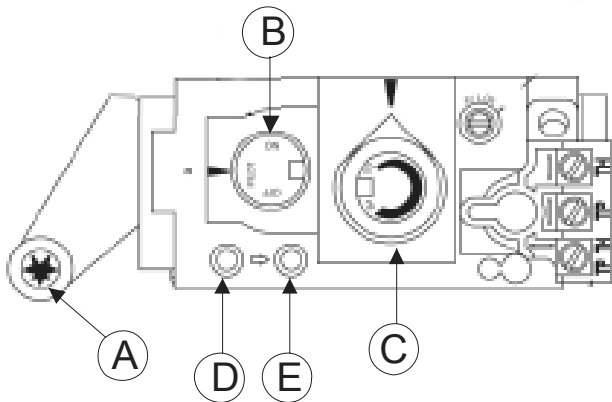
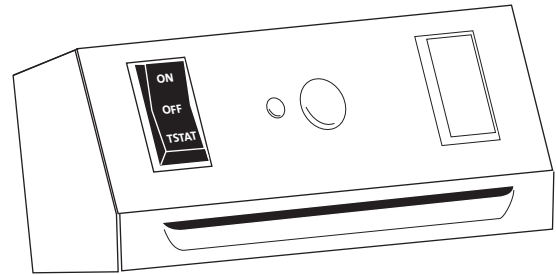
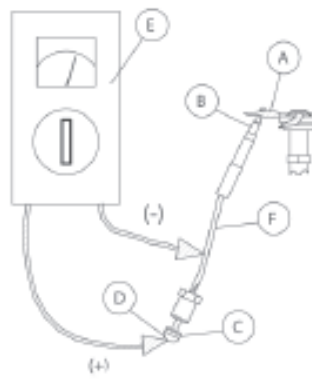
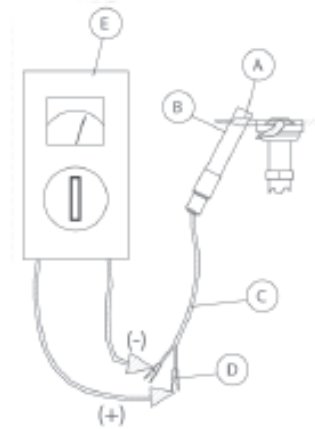

Figure 21. Valve Controls.
Figure 22. Burner Controls.
Figure 24.
Figure 25.
The valve control knobs are located on the front of the appliance behind the control cover plate. See fig. 21. The Burner ON/OFF switch is located on the rear on the left towards the top of the appliance. See fig. 22. This switch has three settings ON/OFF/STAT the STAT position is for use of a remote control thermostat, not available at present, and this setting should not be used.
2. Push in the gas control knob on the front of the valve ("B", fig. 21) a little, and turn clockwise to "OFF". Note: It is impossible to turn the gas control knob unless it is pushed in a little. Do not use force.
3. Push in the gas control knob (B) a little and turn counter-clockwise to "PILOT".
Heat and flame size can be adjusted by turning the regulator knob (C) marked "HI, LOW", which is located next to the gas control knob (see fig.21). Maximum flame size provides maximum heat. Make sure the appliance has been operating for at least 30 minutes before adjusting the flame.
Push the ON/OFF switch at the rear of the appliance to "OFF". The pilot flame will continue to burn. In order to fully extinguish the appliance, push in the gas control knob (C) (fig. 21) a little and turn clockwise to "OFF". Do not use force.
If the pilot does not light after attempts to clear the tube system of air, it indicates a problem with the gas tank/cylinder or a leak in the gas tube. Check the gas pressure as instructed in the section Gas Installation on page 10 and determine if the fault/leak is before or after the valve on the appliance. If the gas pressure at outlet D (fig. 21) is too low or there is no gas pressure at all, the fault or leak must be located before the valve on the appliance. If the gas pressure is OK at outlet (D), but too low at outlet (E), then the fault or leak must be located after the valve.
Thermocouple (Fig.24) and Thermopile (Fig. 25)
This is the trouble-shooting procedure for the thermocouple, fig. 24,B: Check the copper wire (F) of the thermocouple for cracks or damage.
Make sure the flame is centred at the thermocouple. Make sure the thermocouple is enveloped by the flame up to at least 3 mm from the tip (see fig.21). Check the voltage generated by the thermocouple. Connect the multimeter (fig.24-E) with plus to the ball point (D) at the end of the copper wire. Connect minus to the copper wire. Light the pilot (A) and hold in the control knob to prevent the flame on the pilot burner from going out. At this point the multimeter should show 14-28 mV. the thermocouple. Note that there are 2 threaded holes that can be used when installing a new thermocouple. Make sure the blue wire (A) is fastened at the same threaded hole. The nut on the thermocouple must not be tightened too much, just a 1/2 turn. If the gas pressure is correct and the possible faults above have been checked, the pilot flame can be adjusted with the adjusting screw. The gas volume is increased when the screw is turned anti-clockwise.
This is the trouble-shooting procedure for the thermopile (fig. 25):
8. Check the voltage generated by the thermopile (see fig 25). Connect the multimeter with plus to one cable clip (D). Connect minus to the other cable clip. Light the pilot and make sure the control knob remains on "PILOT" (fig. 21-B). At this point the multimeter should show 500-700mV.